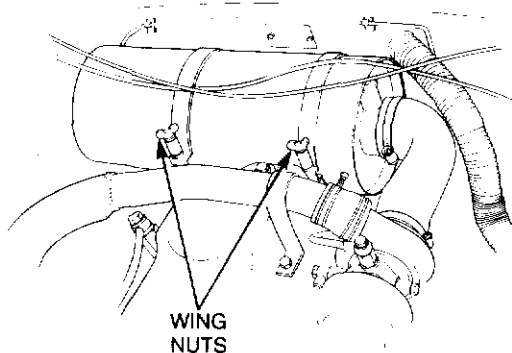

Figure 3-14 Air cleaner removal
- a. Remove the hose clamps securing the air inlet and outlet hoses to the air cleaner housing (see Fig. 3-14) then remove the two wing nuts from the clamp bolts. Carefully lift the air cleaner out of the mounting brackets.